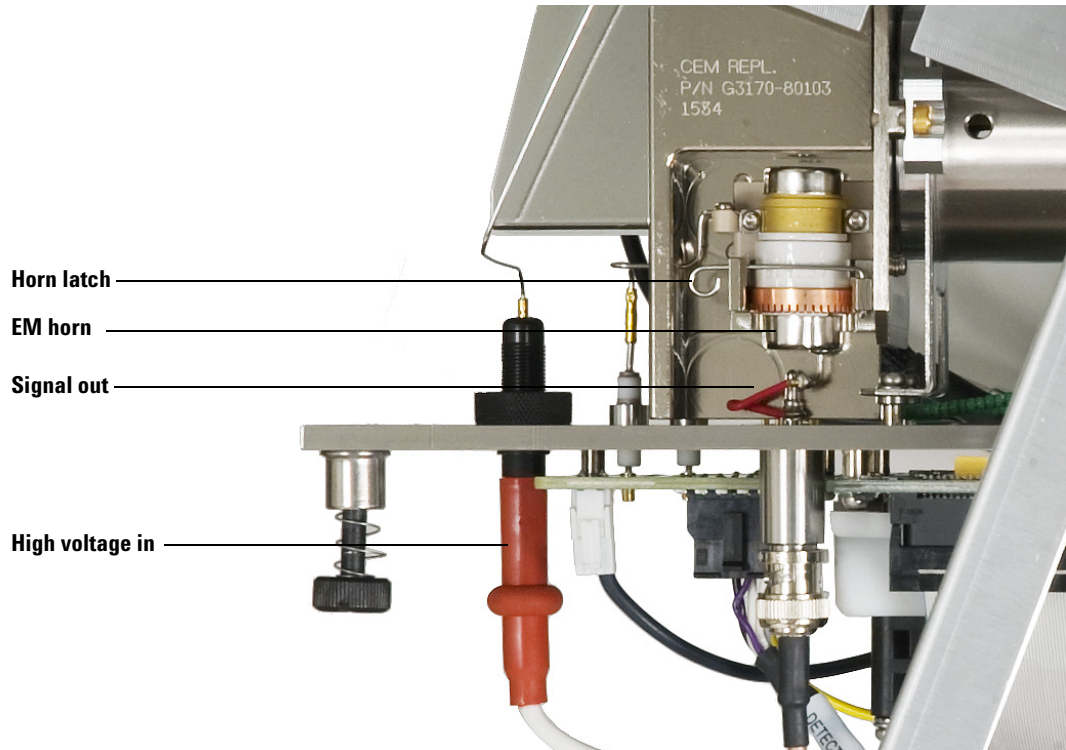

Figure 33 The detector
The detector (Figure 33) in the MS analyzer is a high energy conversion dynode (HED) coupled to an electron multiplier (EM). The detector is located at the exit of the rear analyzer. It receives the ions that have passed through the mass filter. The detector generates an electronic signal proportional to the number of ions striking it. The detector has three main components: the detector ion focus, the HED and the EM horn.